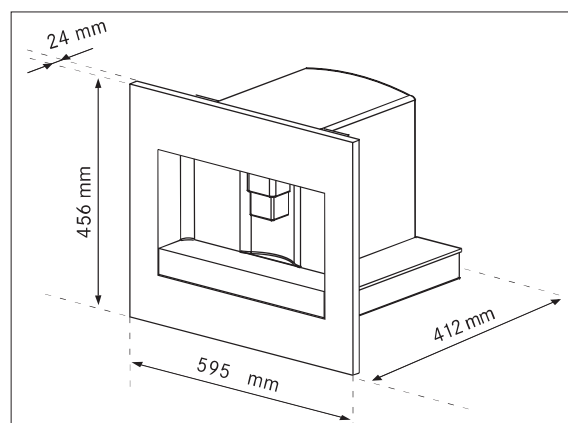

Fig. 1
- Verify the minimum measurements required for correct installation of the appliance (Figure 1, 2 and 3).